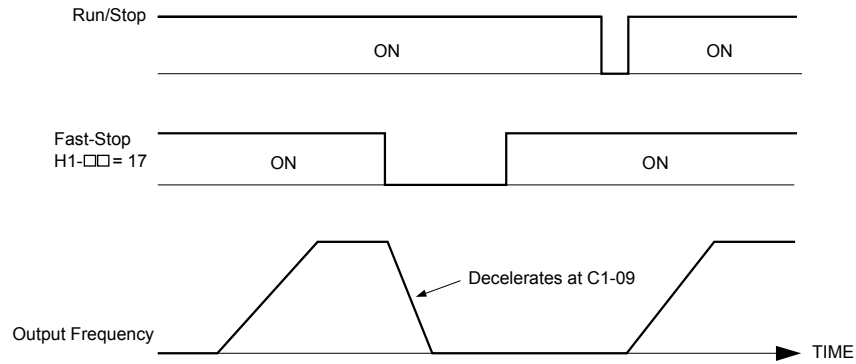

Figure 5.63 Fast Stop Sequence
**Figure 5.63** shows an operation example of Fast Stop.